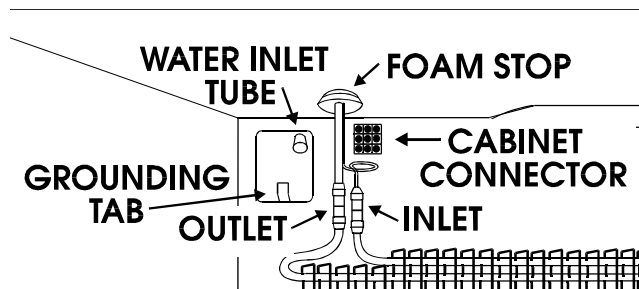

Fig. 1
15. Cut away the foam stop material even with the plastic freezer compartment liner where the heat exchanger emerges from the cabinet. (Fig. 1)